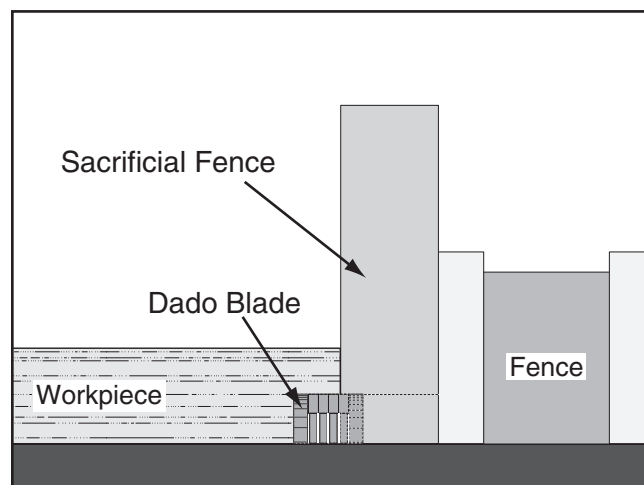

Figure 60. Rabbet cutting.
3. Adjust the fence and align the workpiece to perform the cutting operation, as shown in **Figure 60**.